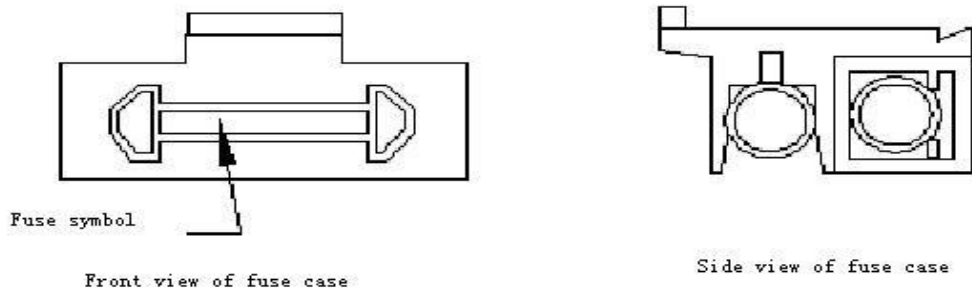
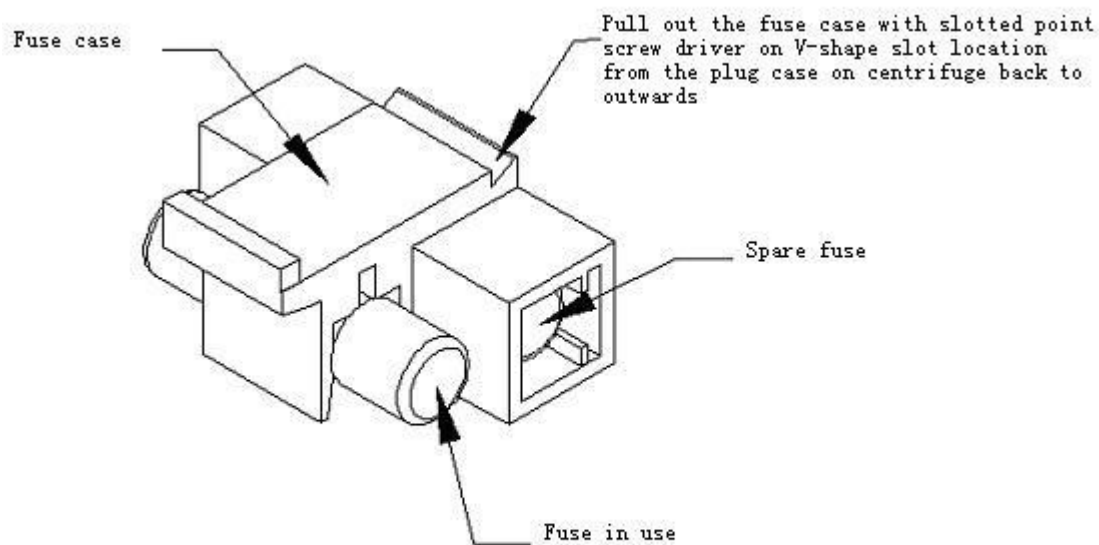

Figure 3
Figure 4
- (1) Cut off the power, and unplug the plug the power cord connected with the external electric supply socket. Then draw another end of the power cord connected with the centrifuge.
- (2) There is a fuse case equipped on the under part of electric outlet on instrument back. (See figure 3) There is a marking for fuse symbol, and find the V-shape slot on fuse case. (See figure 4) Pull out the fuse case with slotted point screw driver into the V-shape slot.
- (3) Take out the damaged fuse and replace it. The model of fuse of the centrifuge is BGXP 5×20 、 250V 5A.
- (4) Put the fuse case into electric outlet.